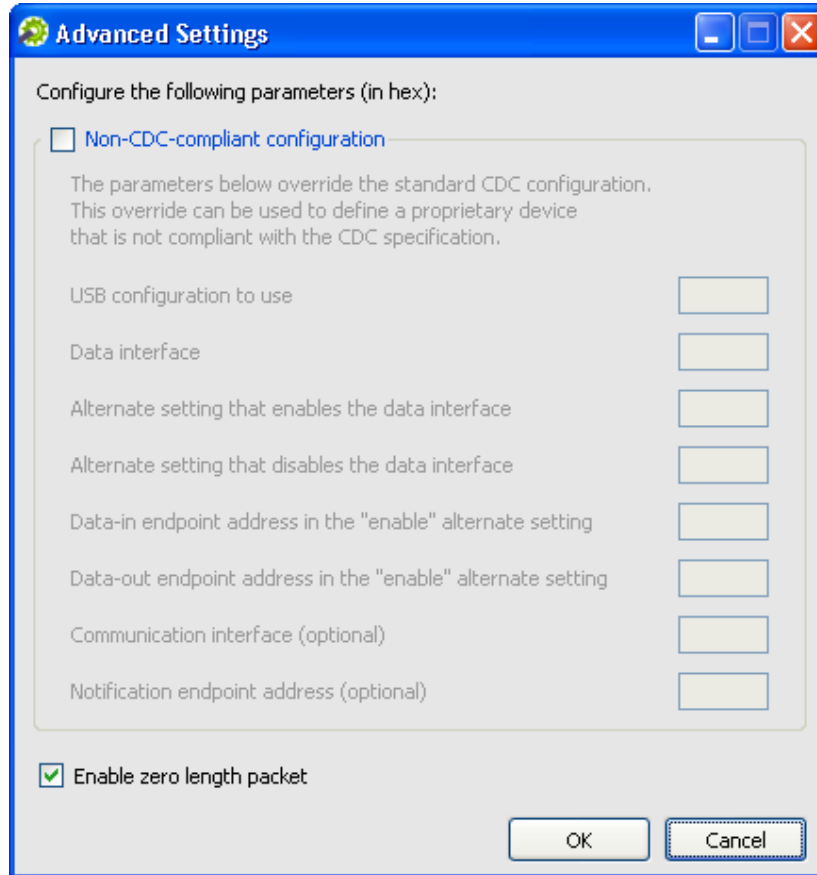

Figure 3.3: DriverCore Wizard – Advanced Settings
- (a) Click **Advanced...** to display the **Advanced Settings** window [Figure 3.3].